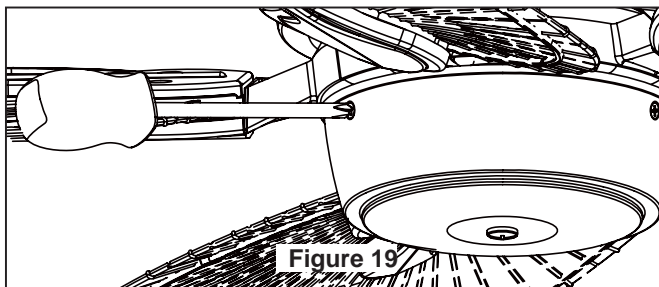

Figure 19
- ☐ 5. Assemble the Housing Switch Cup onto the assembled Adapter with three screws. (Figure 19)